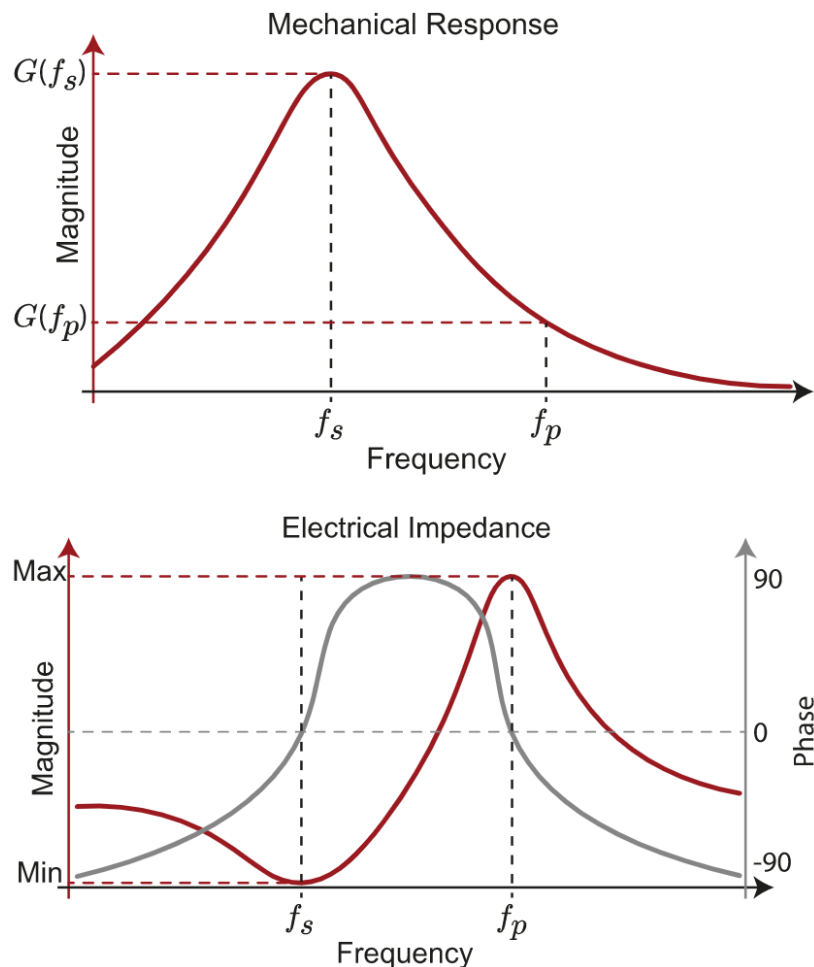

Figure 3. Electrical and mechanical frequency response of an ultrasonic transducer
The most important concept to understand is the relationship between the electrical and mechanical impedance response of a transducer. Figure 3 plots the mechanical and electrical frequency response of an ultrasonic transducer.
The resonance tracking system of the PDUS210 is illustrated Figure 3. The phase detector (M) measures the impedance phase angle between the primary voltage and current. The phase controller $C_\theta(s)$ varies the drive frequency to maintain a constant phase set point θ_{ref} , which is usually equal to zero.